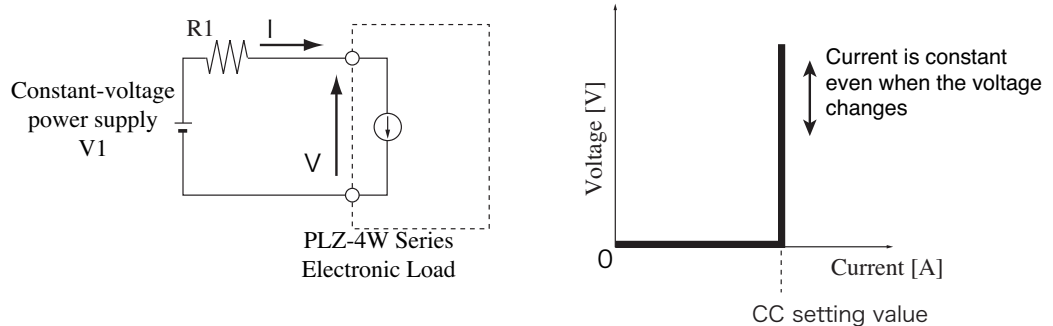

Fig. 3-4 Equivalent circuit of the constant current load and operation
When the PLZ-4W is used in CC mode, the PLZ-4W operates as a constant current load as shown in Fig. 3-4. The PLZ-4W sinks the specified current (I) independent of the output voltage of the constant-voltage power supply (V_1).
We will consider the case when checking the load characteristics of the constant-voltage power supply of Fig. 3-4 using CC mode.